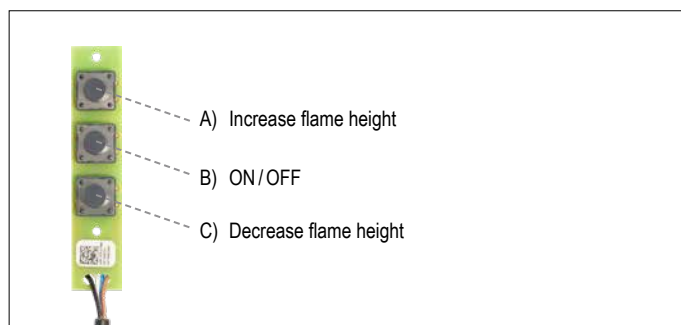

Figure 20: Switch Panel
- Press "B" button (see figure 20, page 11) until two short beeps confirm the start sequence has begun; release button.